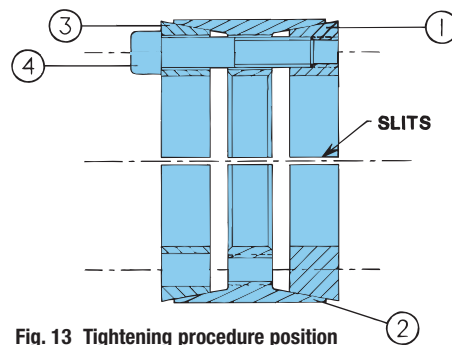

Fig. 13 Tightening procedure position
3. Place locking assembly on shaft and into hub bore to desired position. Remove the screws from the push-off threads and screw them back into the original threaded holes of the rear thrust ring ① as shown in Fig. 13.
Used locking assemblies must be cleaned, lightly oiled and re-assembled as shown in Fig. 13. That means the slits of the front ③ and rear ① thrust rings as well as the outer ring ② have to be lined up and the clearance holes of the front and outer ring must be opposite the threaded holes of the rear thrust ring.